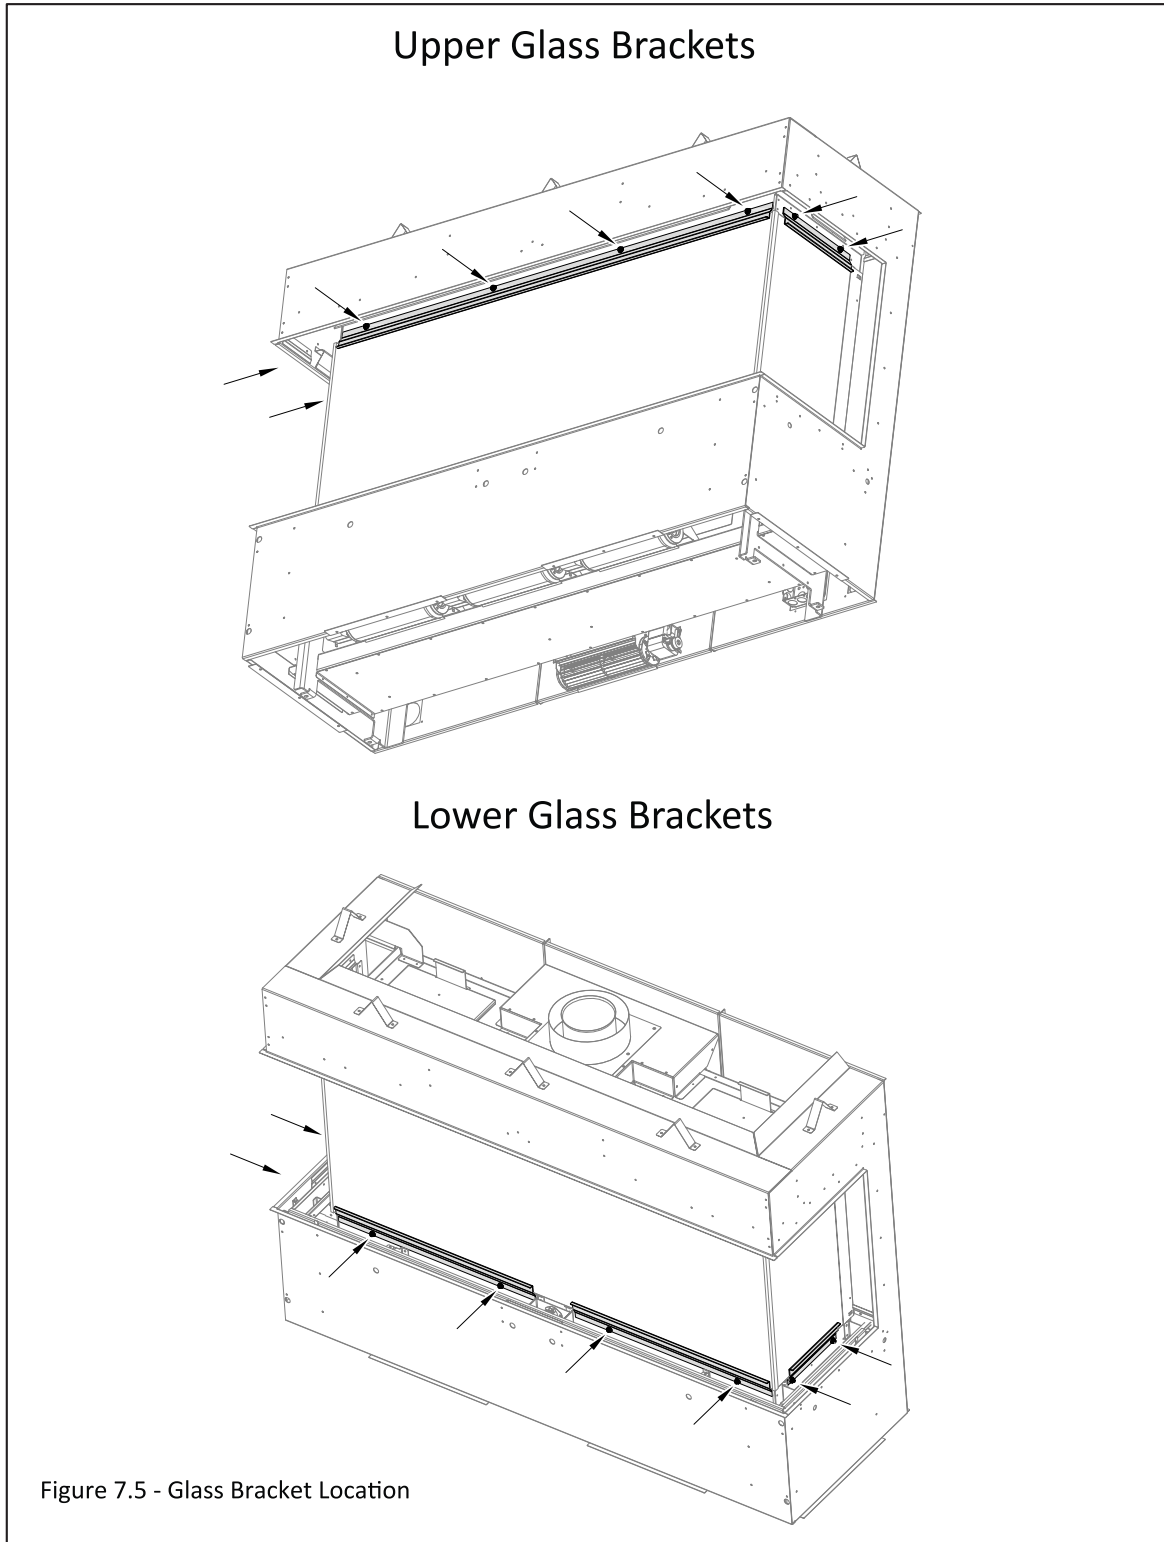

Figure 7.5 - Glass Bracket Location
3. Remove the 7/16" nuts that secure the upper glass bracket and remove this bracket for the front glass as shown in Figure 7.5. Save this bracket to reinstall the glass.
4. Loosen the 7/16" nuts that secure the lower glass brackets as shown in Figure 7.5. You do not need to remove these brackets.
4. Secure the remaining side firebox glass bracket with the 7/16" nuts. Tighten all the 7/16" nuts that secure the upper and lower glass brackets as shown in Figure 7.5.